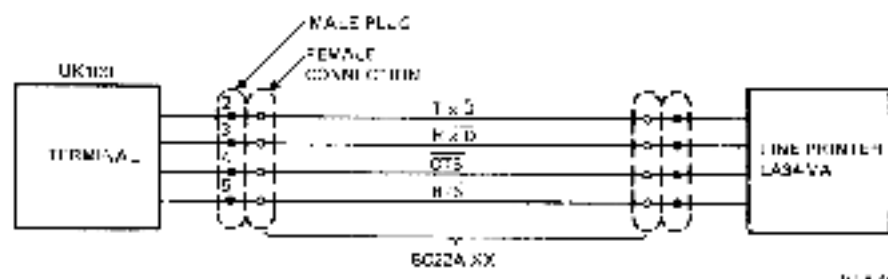

Figure 5-38 Line Printer Connected to Single Terminal
1. Line printer connected only to a single terminal (Figure 5-38)
Figure 5-38 shows the cables used with both systems.